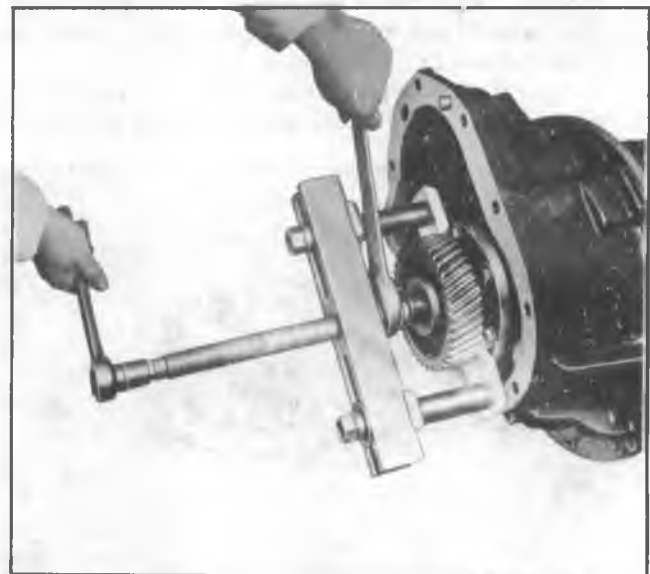

Fig. 19M—Removing Pinion Shaft Helical Gear
- c. Using puller J-3493; pull gear from pinion shaft (fig. 19M).